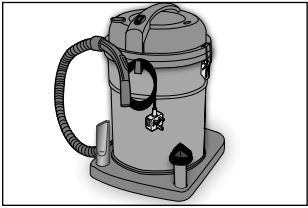

Fig. 10
After use, switch off the appliance by pressing the switch (B); unplug it from the mains and wind the cord either around the appliance or the special cord winder (FIG. 10).
Use the relevant hook for the floor brush when storing the appliance (FIG. 10).
The attachments provided can be stored in the spaces fitted in the base of the appliance itself (FIG. 10).